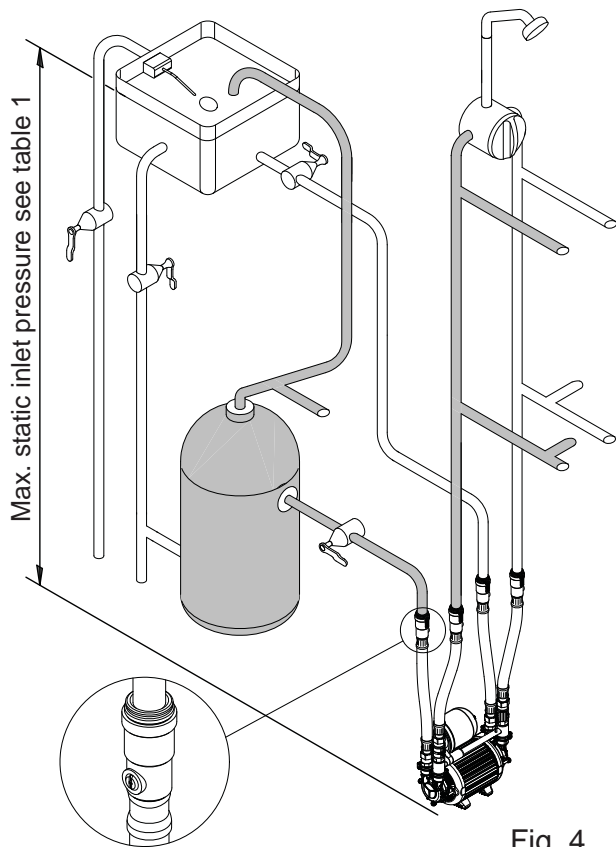

Fig. 4
- 2.25 **Preferred pump location:** The preferred pump location is at floor level next to the hot water cylinder or a level that is below the secondary tapping that feeds the pump. This will ensure the pump has access to an air free water supply which is important for trouble free operation (Fig. 4).